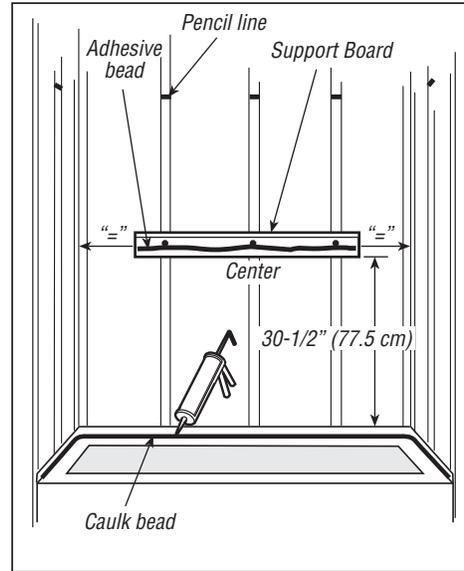

Figure 3
- 3** Locate and nail the rear panel support board to studs as shown in Figure 3. Lay a bead of adhesive to the support board. Lay a bead of caulk along the tub ledge and also fill each notch with caulk. Position the back panel in place on the alcove wall. Firmly press on center of panel to assure contact with adhesive on support board.